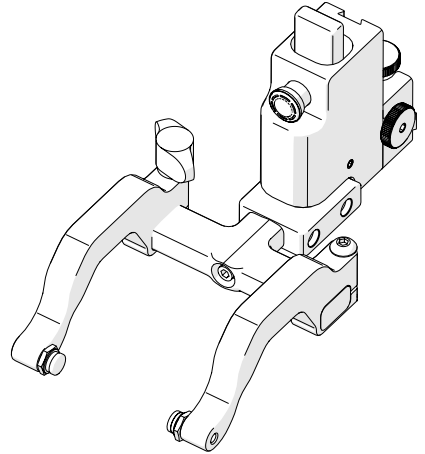

Fig. 126 - 90° probe holder positioning
2. Orient the yoke to the front of the probe holder and screw the yoke into the threaded hole provided (Fig. 126).